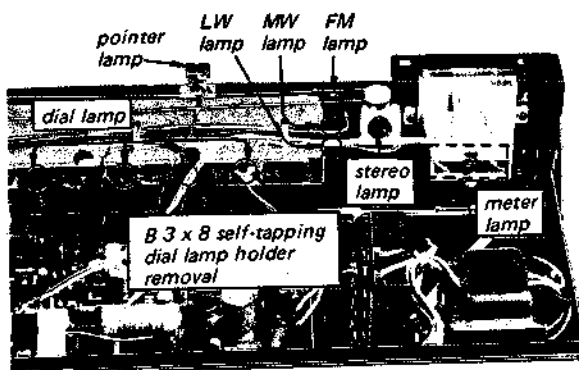

Fig. 2-3. Dial lamp replacement
1. Remove the screw securing the dial lamp holder to its shade shown in Fig. 2-3. This frees the holder.